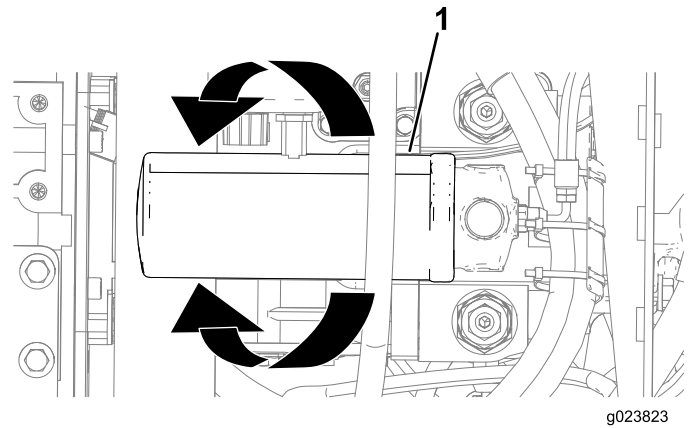

Figure 151
3. Align a drain pan or several rags under the hydrostatic-charge filter (Figure 151).
4. Rotate the hydrostatic-charge filter counterclockwise and remove the filter (Figure 151).
6. Align the hydrostatic-charge filter to where it seats, and rotate it clockwise until the seal of the filter contacts the adapter (Figure 151).